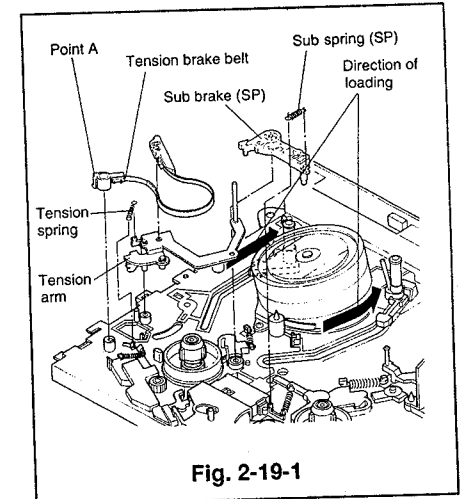

Fig. 2-19-1
- 3 Remove the sub brake(SP) and the sub spring(SP). (Refer to Para. 2-14 for the removal method.)
- 4 Unfasten the catch of the part A on the tension brake belt and raise the part A to unfasten the tension brake belt from the supply reel disk. (Refer to Fig. 2-19-1)